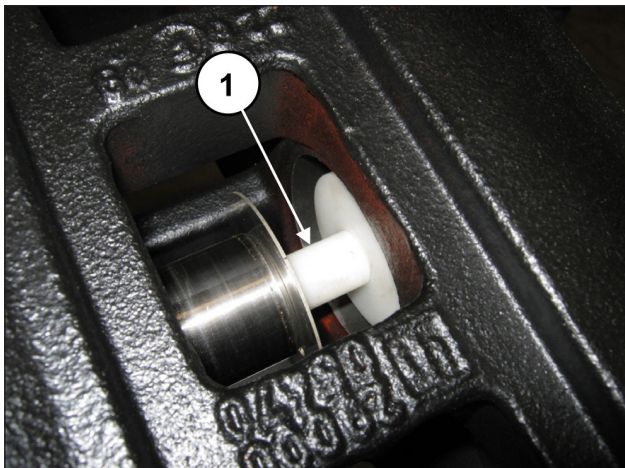

Fig. 170
Insert the buffering tool code 27632500 between the piston guide and the piston (pos. ①, Fig. 170).